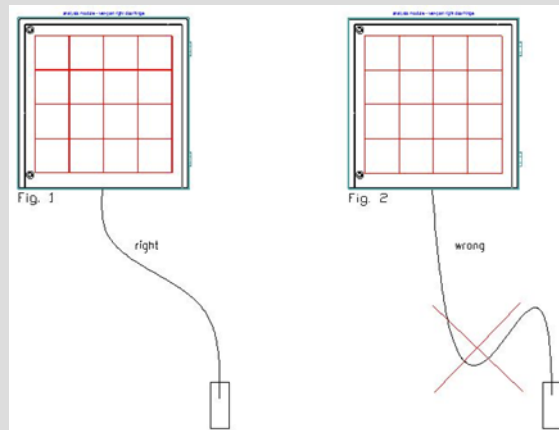

Figure 10: Installation drainage tubing
- The drainage tubing has to be connected to a central drain that is connected to the local drainage system. This should be done using the most direct path possible and without making any bends or kinks (see Figure 10: Installation drainage tubing).